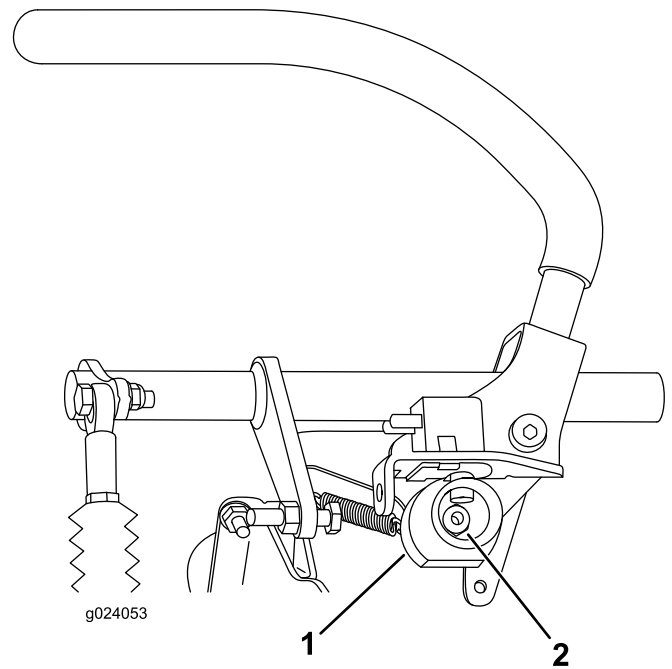

Figure 72
7. Loosen the nut holding the cam (Figure 72).